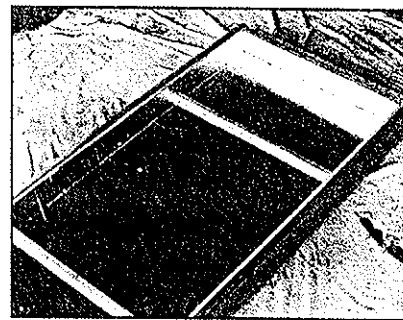

Figure 7
21. Then cut four 1 in. x 1 in. wood pieces to length so that they fit snugly cross the width of the box. Install these over the insulation. Fig. 7